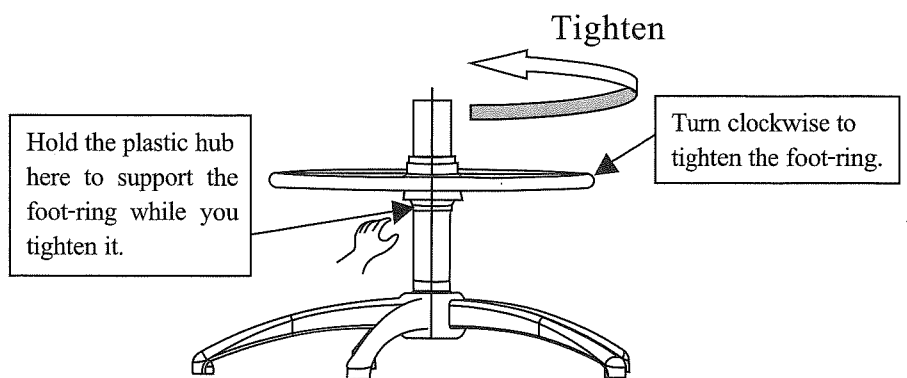

Fig .4
2. Assembly - Position the foot-ring on the gas cylinder at the desired height. Hold the bottom of the plastic hub with one hand and the outer ring with the other. Turn the outer ring clockwise to tighten the foot-ring. (Refer to Fig.4)
Adjust the height as required and then tighten again. (Refer to Fig. 4)